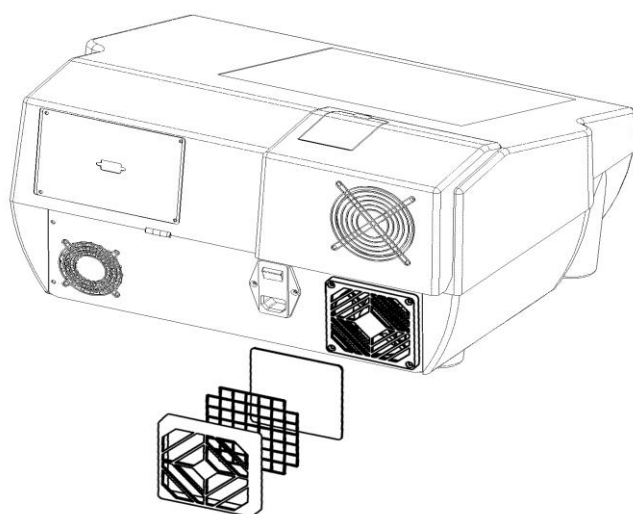

Figure 3-1. Changing the fan filter
2. Using a small flathead screwdriver, pry the fan cover off the back of the instrument (Figure 3-1). The fan cover, protective screen, and fan filter come off the instrument together.